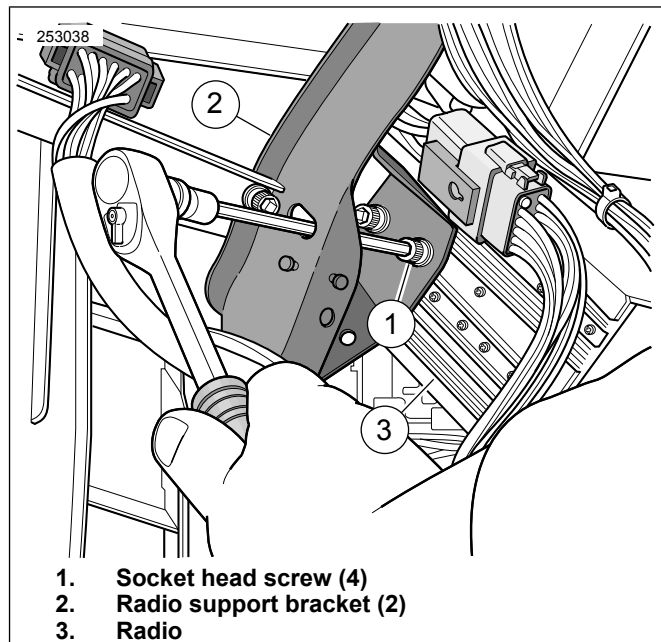

Figure 2. AM/ FM Radio Installation; Right (Brake) Side Shown
3. See Figure 2. Remove the four socket head screws (1) to release the radio from the left and right radio support brackets (2). Use the oblong holes in the brackets to access the screws, and support the radio as the screws are removed.